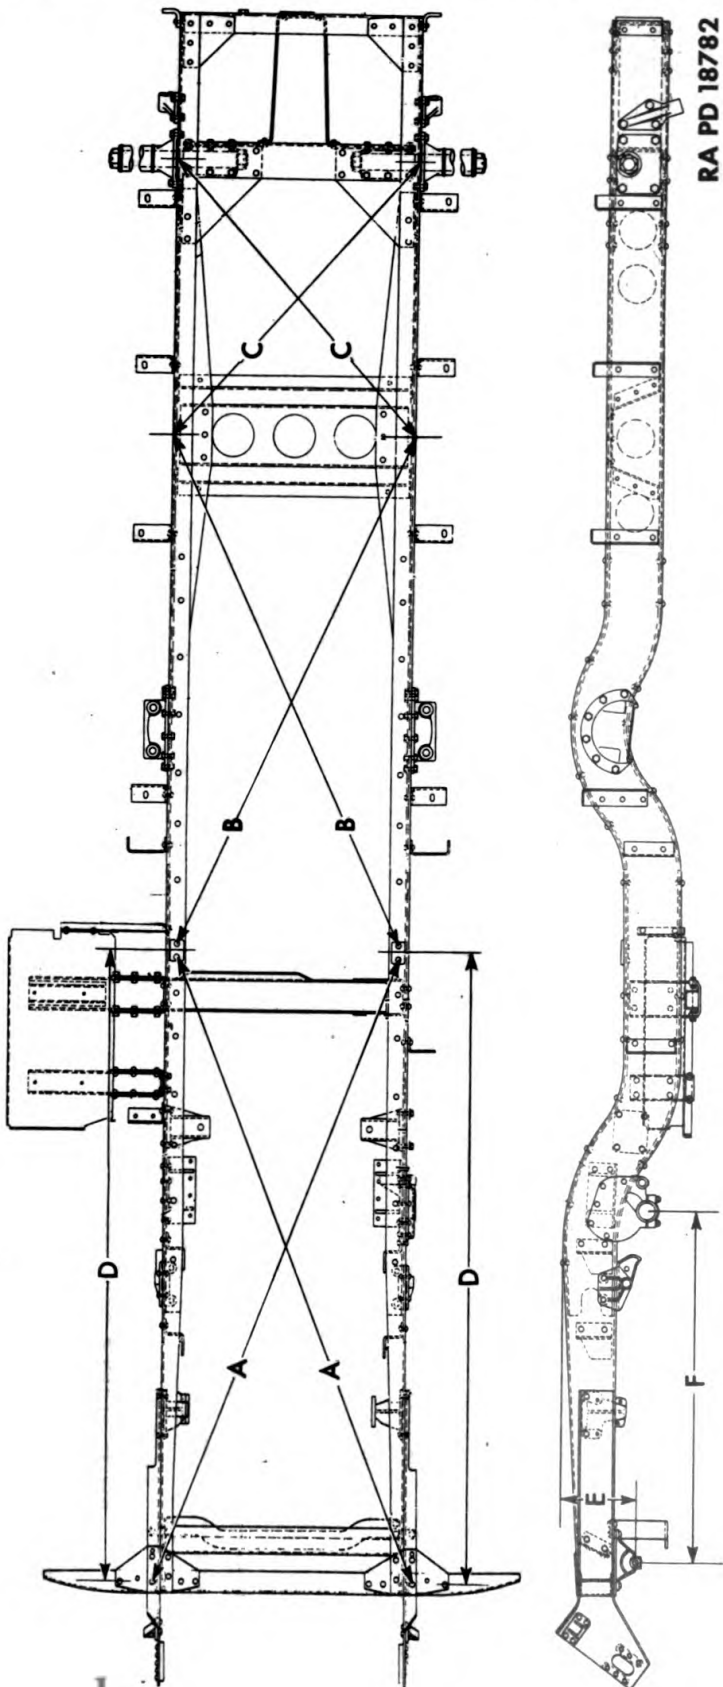

Figure 17 — Chassis Frame — Alinement Diagram
a. Alinement. Correct frame alinement is of major importance to vehicle operation. The chassis units will not function properly in a swayed, bent, or broken frame. Improper frame alinement, usually the result of an accident, places excessive strains on the various parts of the vehicle, and affects wheel alinement. Diagonal frame measurements (fig. 17) will quickly determine which, if any, section of the frame is bent, and where force should be applied to restore correct alinement. The diagonal measuring should be performed with every accuracy and care. Measurements can be taken without removing the body from the chassis, through use of a plumb bob and chalk line, as follows:
(1) Place vehicle on a level floor with tires properly inflated and track tension equally adjusted.
(2) Suspend a plumb bob from the various points on the frame (fig. 17). The plumb bob should be suspended slightly above the floor when it comes to rest. Mark the floor directly underneath it.
(3) Move the vehicle so that the diagonal distances between the chalk marks can be measured.